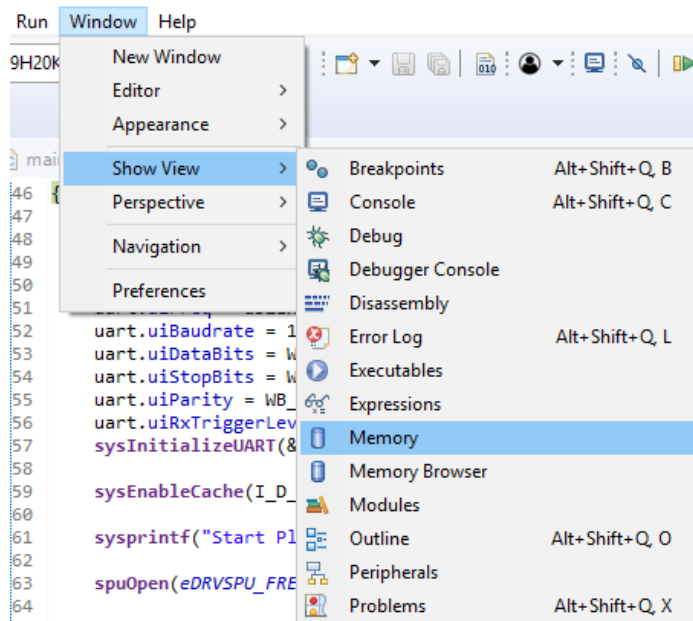

Figure 3-8 Dump Memory
3. Dump **Memory** window as in Figure 3-8.